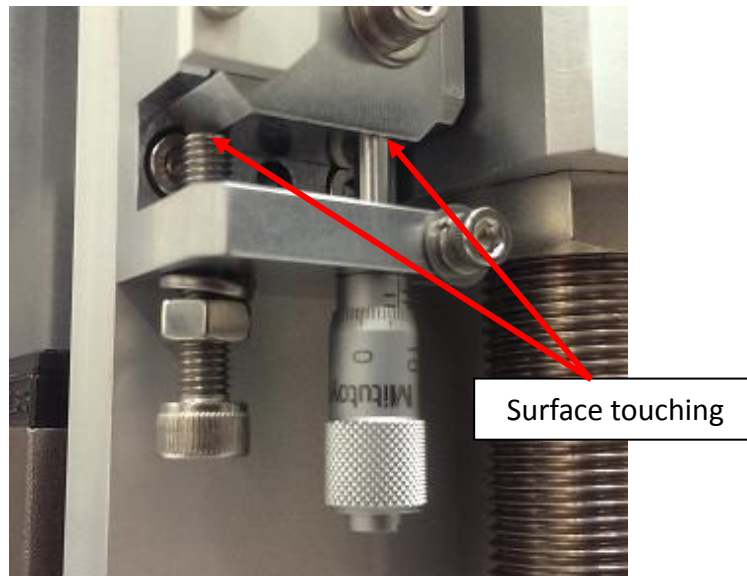

Figure 28
35. While tube cylinder at **Down** position, hand tight the M5, Hard Stop Support Screw and Nut. Ensure the screw is touching the Hard Stop Block surface as Figure 28.